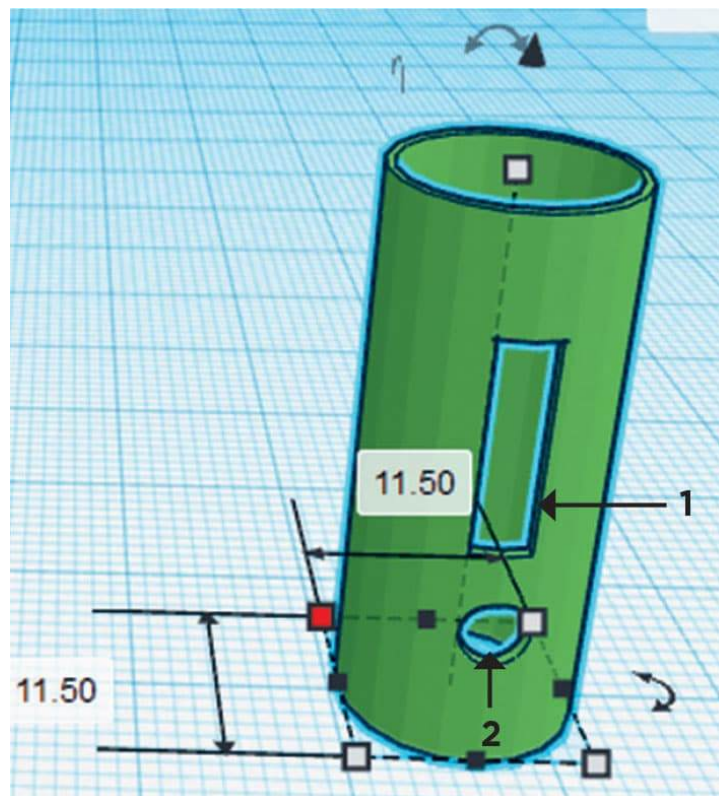

FIG. 3: Make a head casing with a slot and a round hole.
3. The head casing can be modeled as a regular hollow **Cylinder** that is open on one end. The diameter of cylinder should be the same as that of the body casing cylinder (fig. 3). The head casing will also have two holes for the on-off buttons to extend through, as identified by arrow 1 in fig. 3. The length of the head casing is 32 mm.